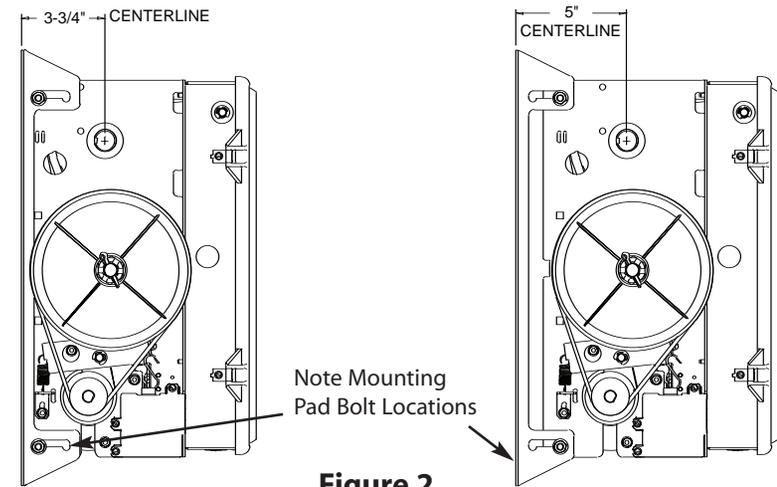

Figure 2
- 3) Adjust mounting feet on operator to required centerline distance. Tighten securely. **Fig. 2**.